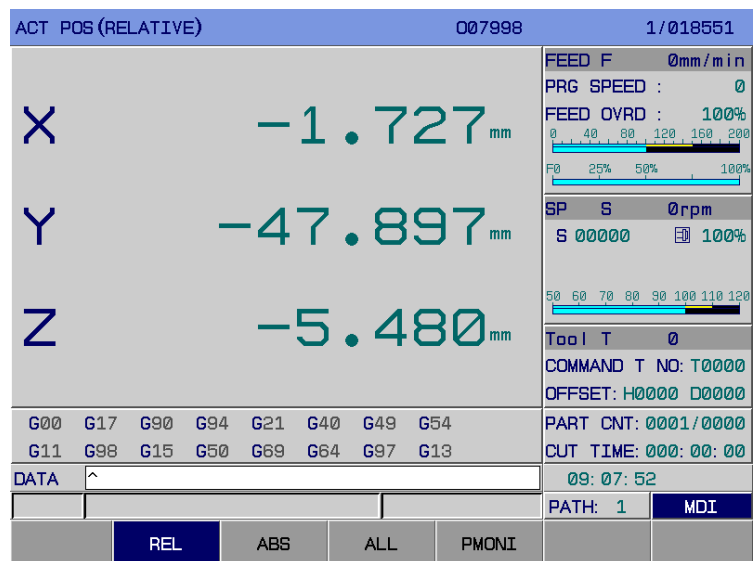

Fig. 3-1-2-1
The programming speed, actual speed, feedrate and rapid override, G codes, tool offset, part number, cut time, spindle override, spindle speed, tools etc. can be displayed on the subpages 【REL】 and 【ABS】 of page <POSITION> (see Fig.3-1-2-1).
- 1) Enter any page that displays the relative coordinates (Fig. 3-1-2-1);
- 2) **Clearing operation:** Press and hold key “X” till X in the page flickers, then press key  to clear the relative coordinate in X axis; (Fig. 3-1-2-2)